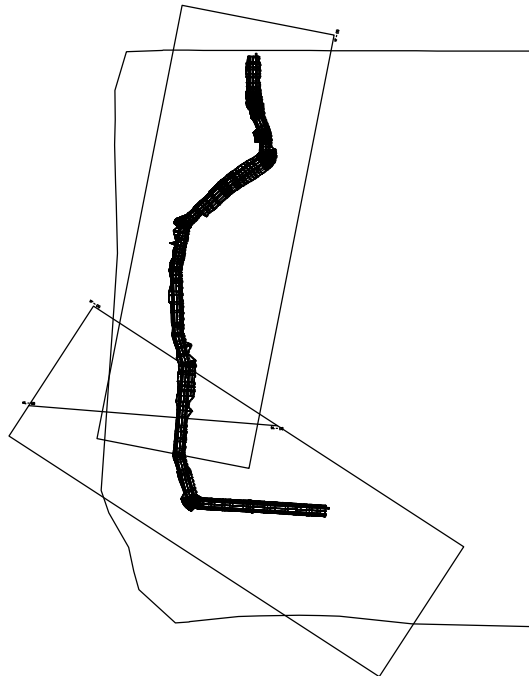

Figure 13-17 The Stephen group view frames
13. Retain the default settings in this page and choose the **Create View Frames** button from the wizard; the view frames are created, as shown in Figure 13-17.